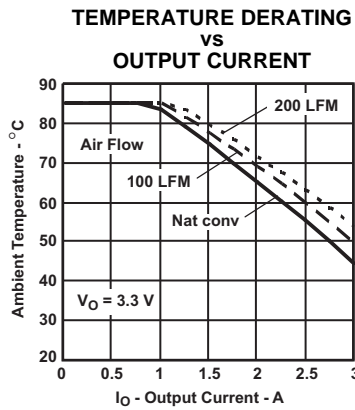
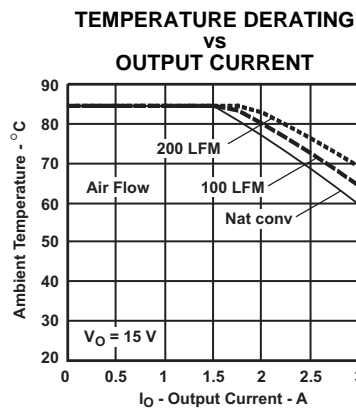

Figure 15.
Figure 18.
- (2) The temperature derating curves represent the conditions at which internal components are at or below the manufacturer's maximum operating temperatures. Derating limits apply to modules soldered directly to a 100 mm x 100 mm, double-sided PCB with 2 oz. copper. For surface mount packages, multiple vias (plated through holes) are required to add thermal paths around the power pins. Please refer to the mechanical specification for more information. Applies to Figure 15 through Figure 18.